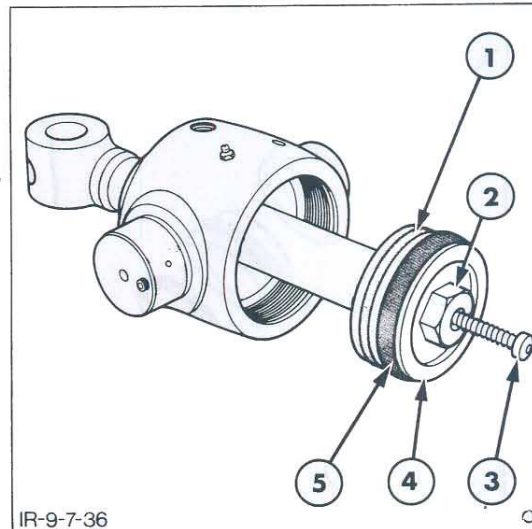

Figure 36
4. Position the headstock/gland trunnion in a vice in such a fashion that all movement is prevented, and using Tool No. FT 8549, unscrew the barrel from the headstock, remove the barrel from the rod and piston assembly, Figure 36.